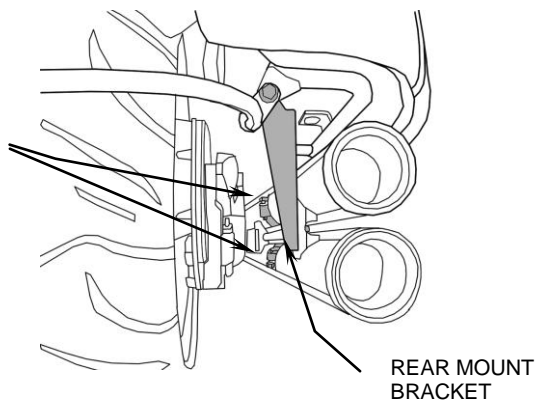

FIGURE 6
9. Remove M8 bolt and nut from lower right side saddlebag support. Install supplied exhaust support to muffler body with supplied 5/16" flange bolt, **DO NOT TIGHTEN**. Insert M8 bolt removed earlier in this step through the top of the saddlebag support, exhaust support and start locknut, Figure 6.